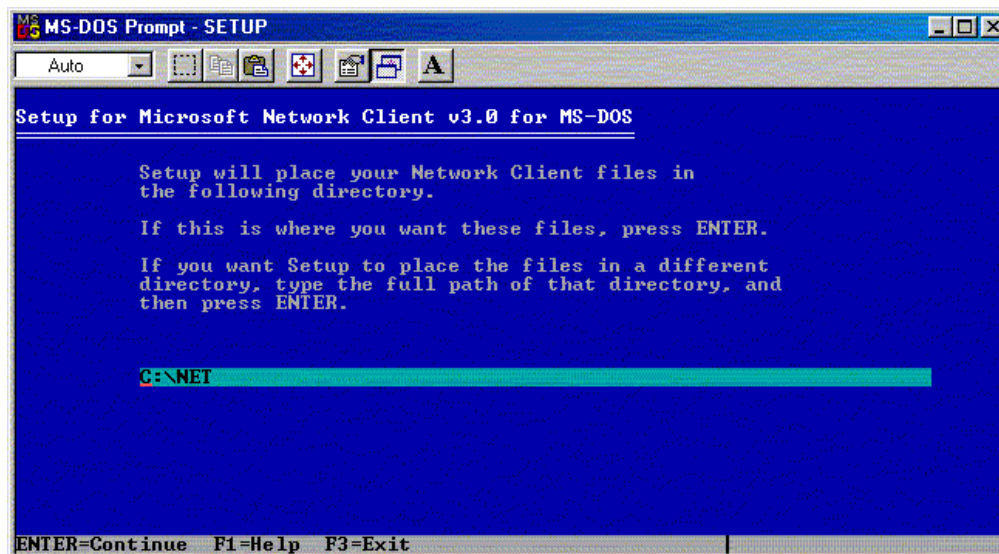

Figure A-7: Default installation directory for network files
- Press the **Enter** key to continue. A screen that indicates the default installation directory for network files is displayed, as shown in Figure A-7. The network files default installation directory is \NET on the local hard drive.